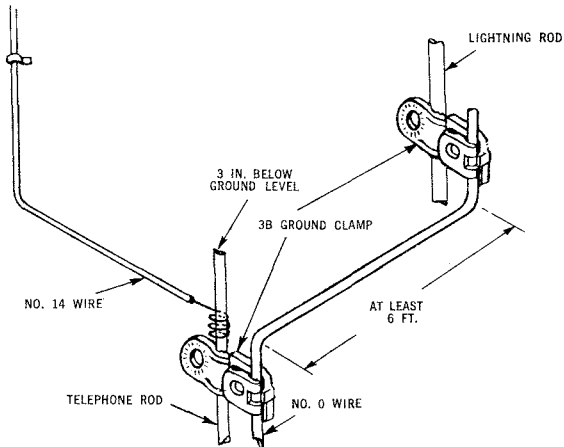

Fig. 31 – Bond to Lightning Rod
- (c) If lightning ground rod present, it must be bonded to telephone ground rod. (See Fig. 31).